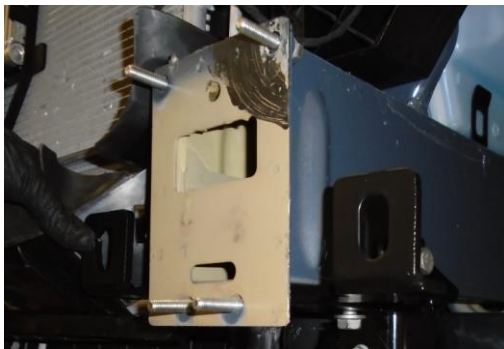

Figure 16: M8 Bolts Installed
17. Install the eight (8) provided M8 bolts with eight (8) split washers through the frame, from back to front, creating studs for the receiver to mount onto. Reference Figure 16.